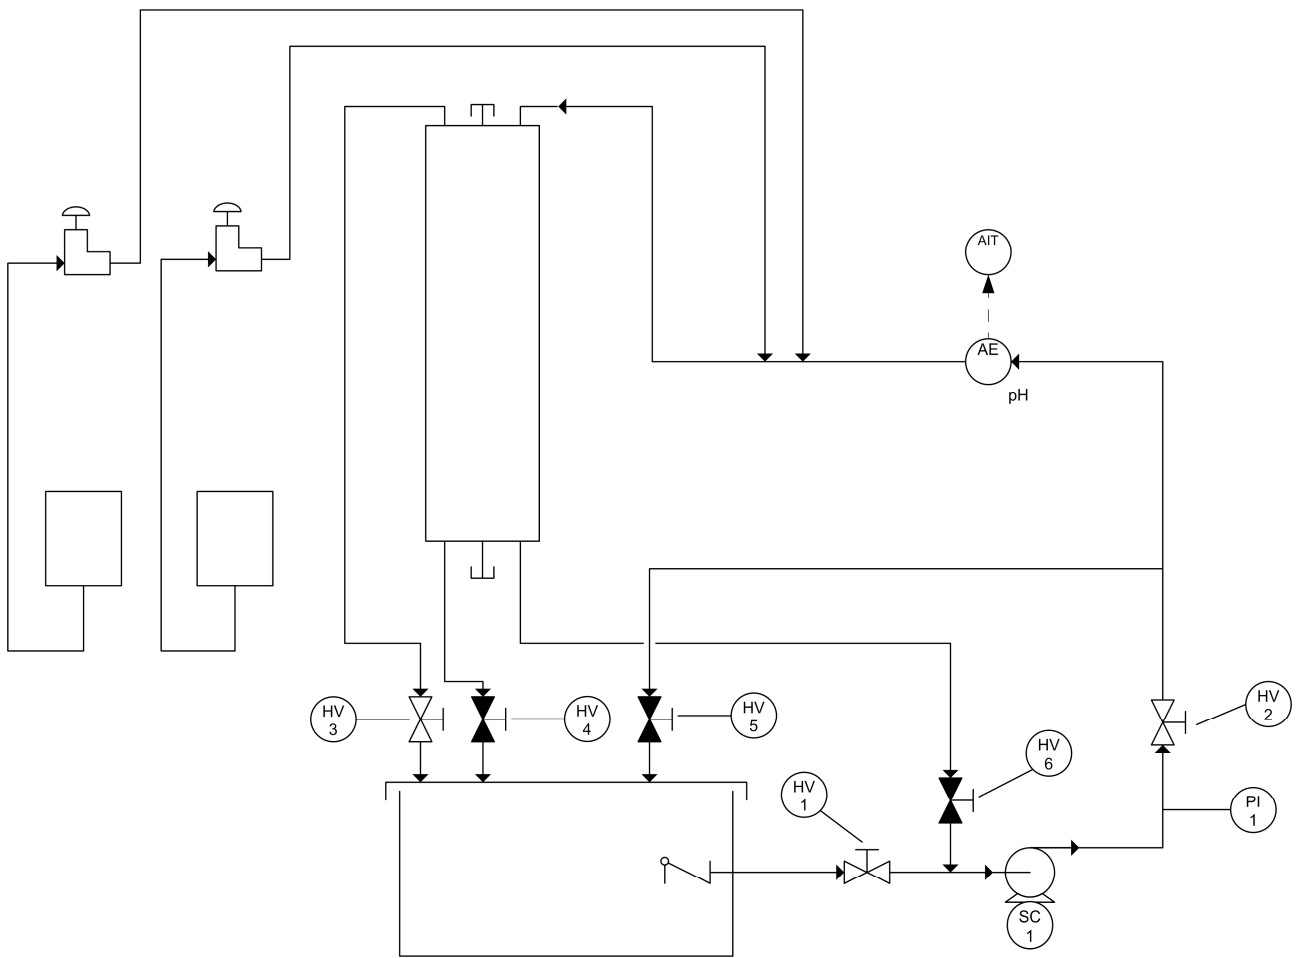
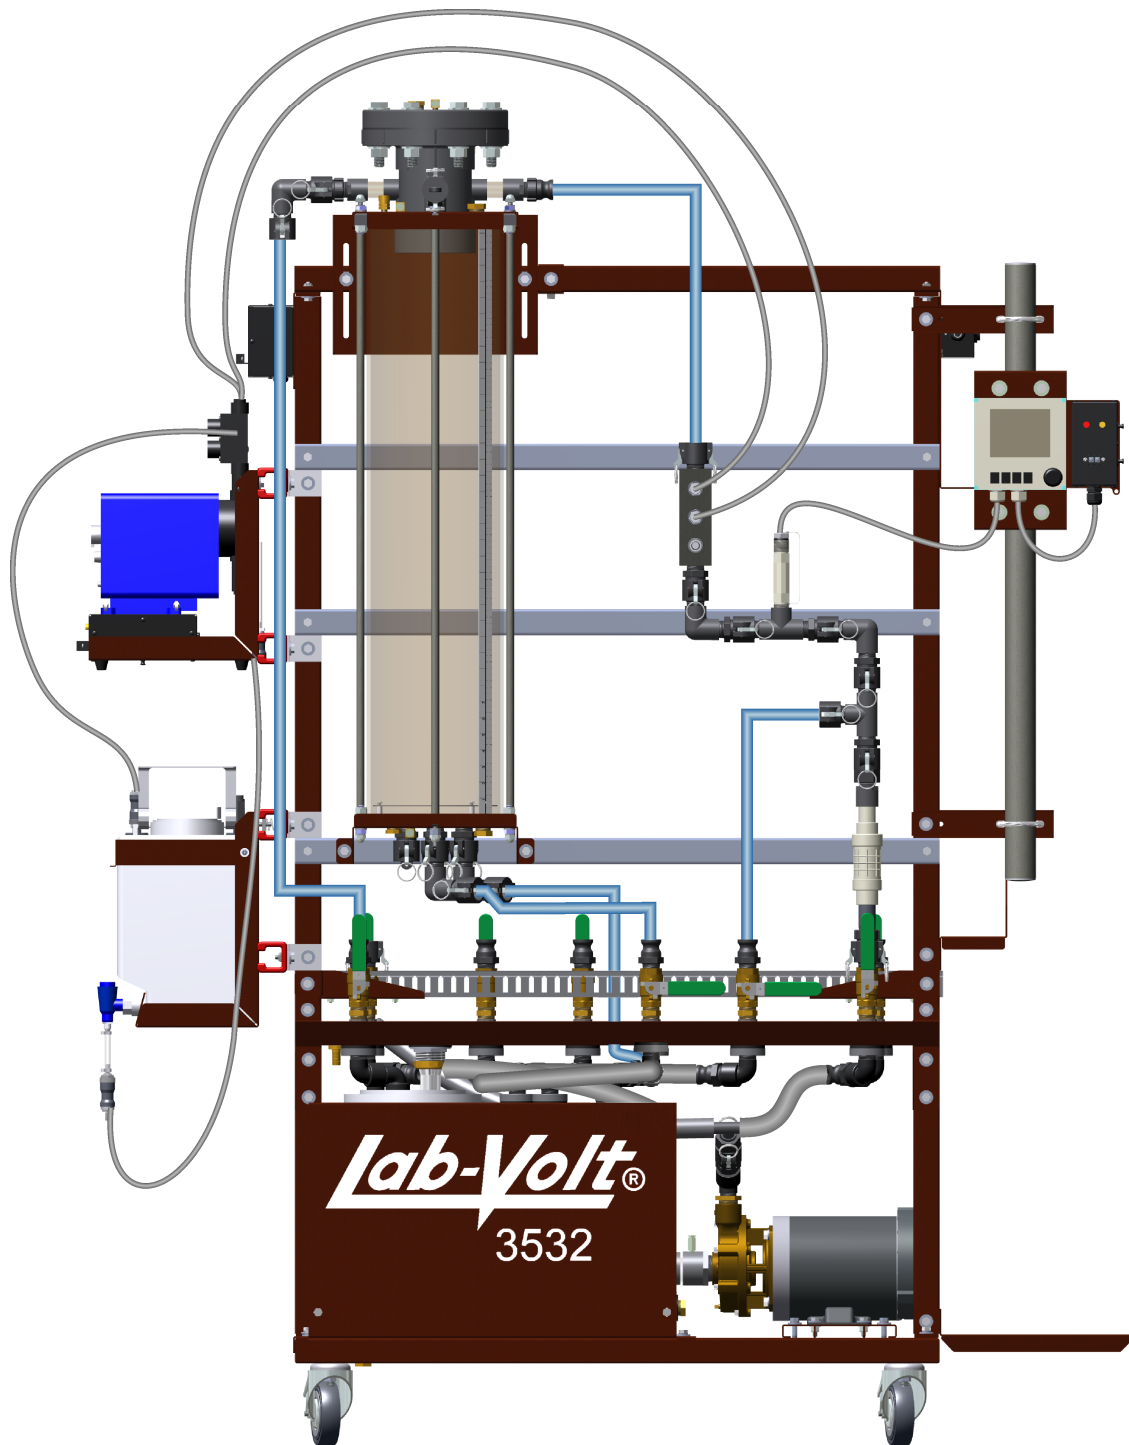
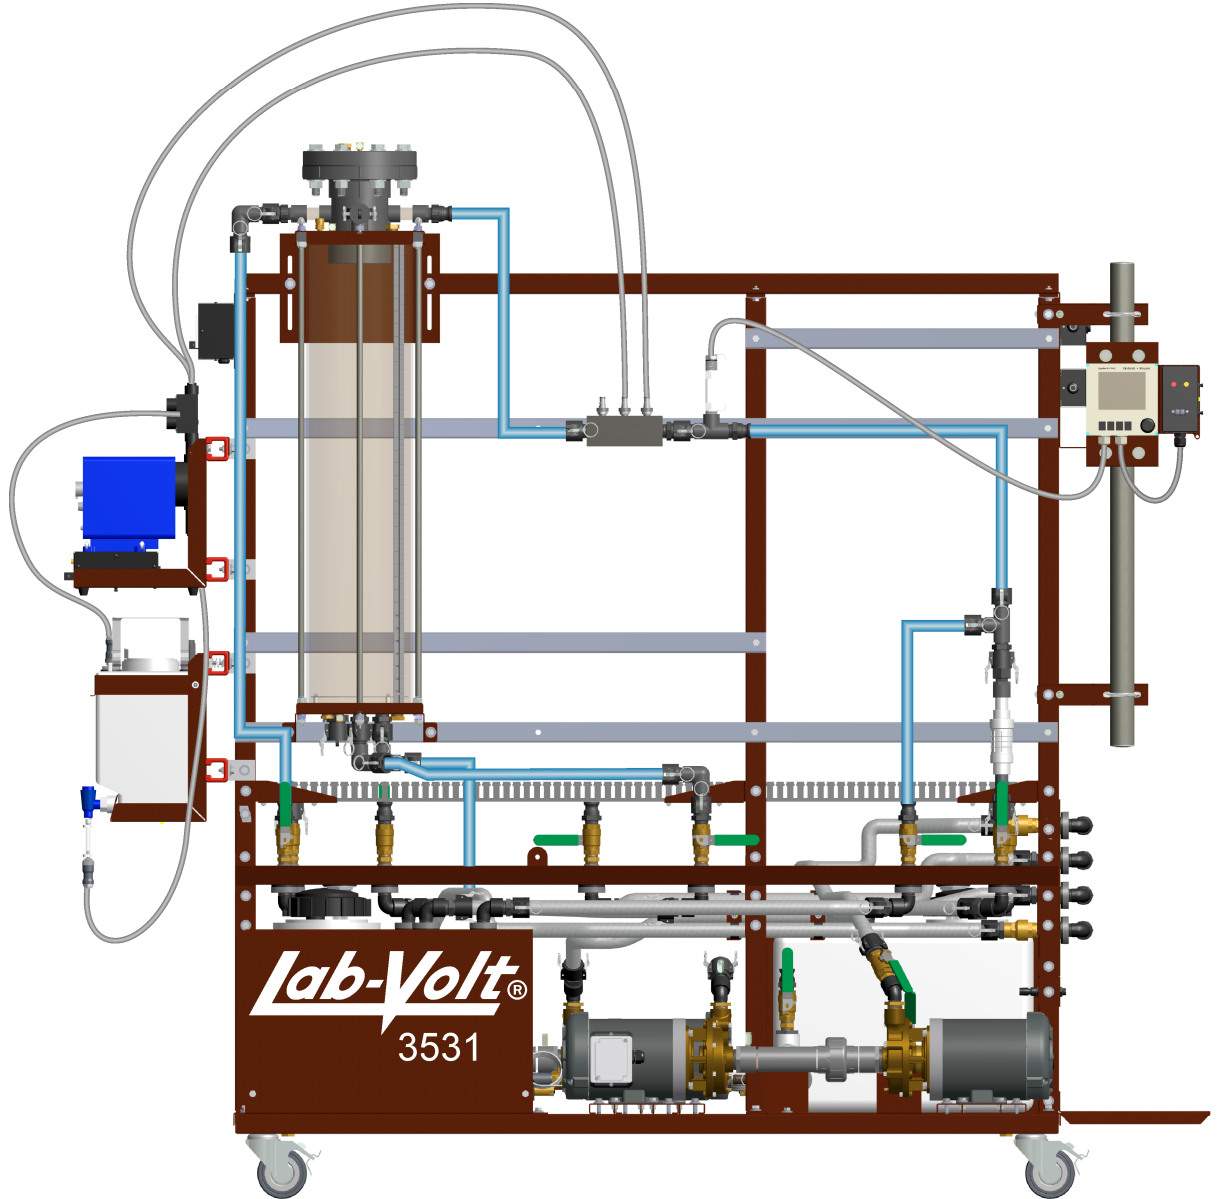

Figure 4-27. P&ID.
Figure 4-28. Setup (series 3532).
Figure 4-29. Setup (series 3531).
1. Connect the equipment as the piping and instrumentation diagram (P&ID) in Figure 4-27 shows. Use Figure 4-28 to position the equipment correctly on the frame of the training system from the 3532 series or use Figure 4-29 to position the equipment on the frame from the 3531 series. Use the basic setup presented in the *Familiarization with the Training System* manual. Table 4-11 lists the equipment you must add to the basic setup in order to set up your system for this exercise.